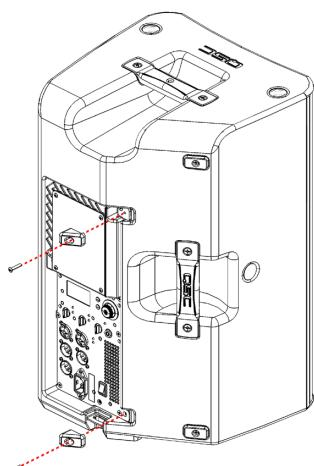

Figure 5.1.1 - Underneath the rubber feet are additional screws.
3. Remove 2 machine screws that secure the rubber feet to the amplifier module. These screws must be removed to access other screws beneath the rubber feet. See Figure 5.1.1.
6. Fasten 2 machine screws, including the rubber feet, into the amplifier module. See Figure 5.1.1